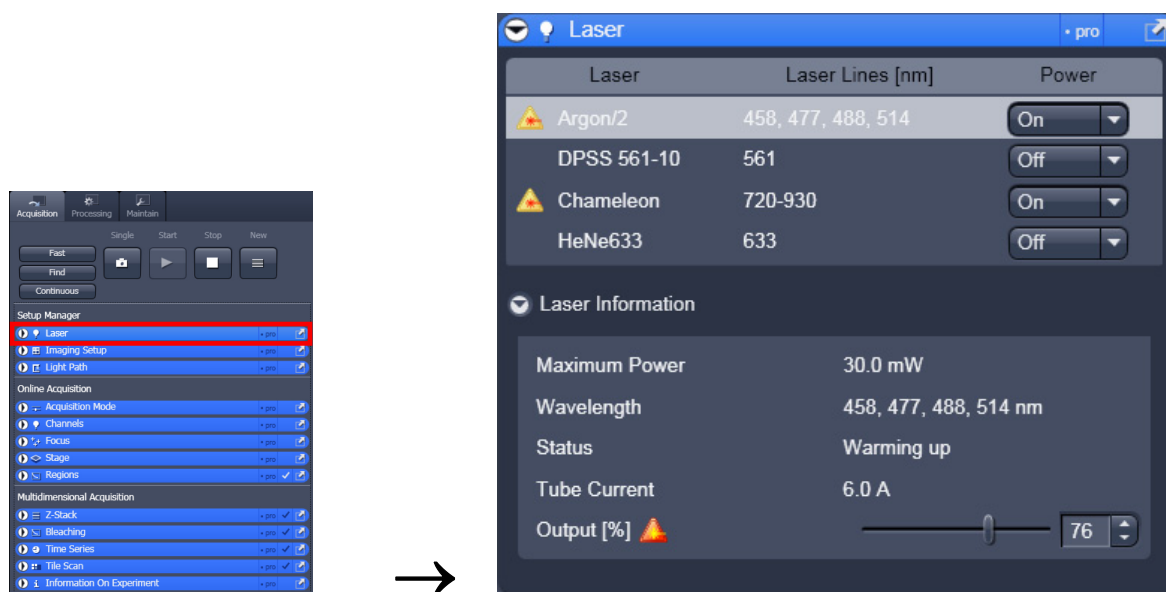

Fig. 10 Laser Control tool (in Pro Mode)
- Open the **Laser Tool** in the left tool area (always the first in the list) and activate the lasers you need for your experiment (Fig. 10). Remember, the argon multi-line laser has to first be put to standby for a 5 minute warm-up before it changes to on.